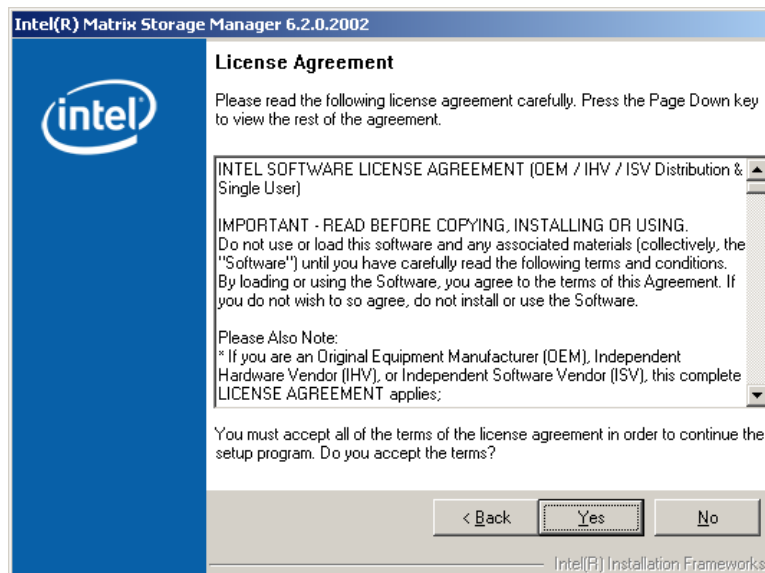

Figure 6-29: Matrix Storage Manager License Agreement
Step 8: Click **NEXT** and a license agreement appears (**Figure 6-29**).